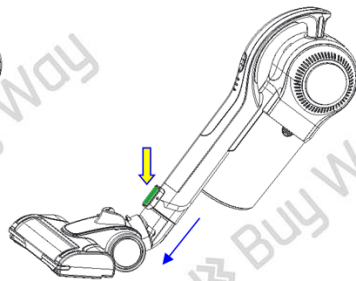

Fig. 6
- If you want to disassemble the motorized floor brush, first press the release button with one hand and hold and remove the motorized floor brush with the other hand (see fig. 6).